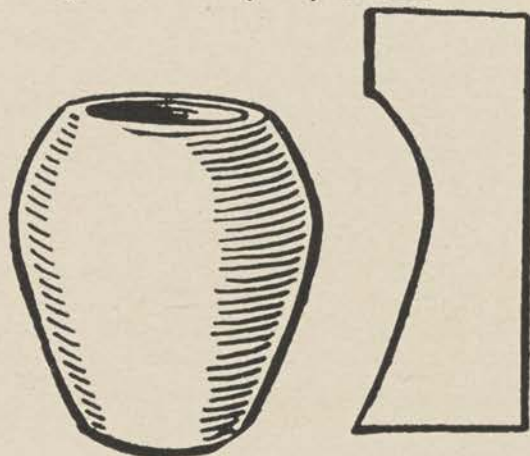

Figure 114.
a. The coil system of building pottery is the simplest way of forming round or cylindrical objects such as vases or bowls. The first step is to make a profile drawing of the object about 10 percent larger than the finished product to allow for shrinkage. From this, a template or pattern is made by tracing one half of the drawing on a piece of cardboard and cutting along the line showing the outside contour of the vase (fig. 114).